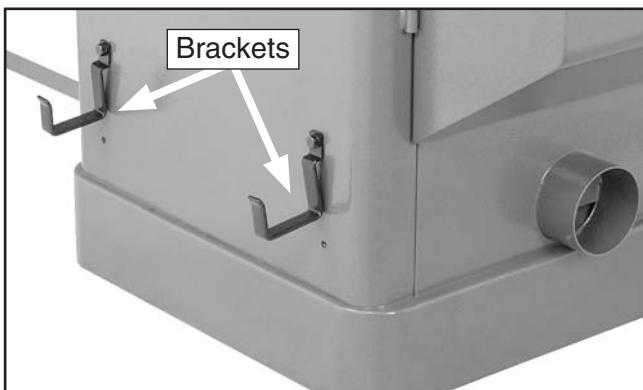

Figure 33. Fence resting brackets installed.
4. Install the fence resting brackets (**Figure 33**) onto the back of the cabinet with the two flange bolts.